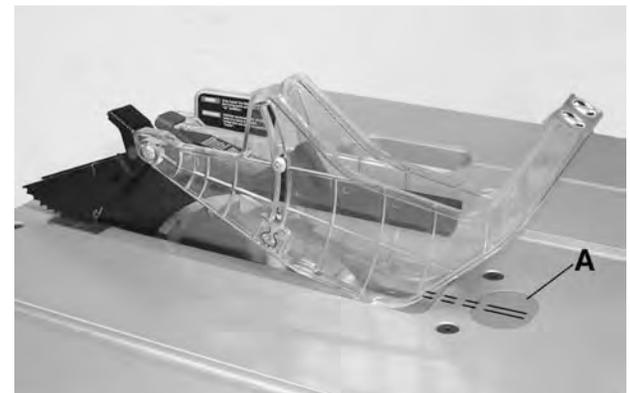

FIGURE 23
A plastic markable insert (A) Fig.23 located in front of the saw blade is provided for marking the location of the saw blade kerf (cut width) on the workpiece.
3. Turn the saw Off, once the blade has come to a complete stop, pull the miter gauge back until the freshly cut workpiece is over the markable insert (A) Fig.23.